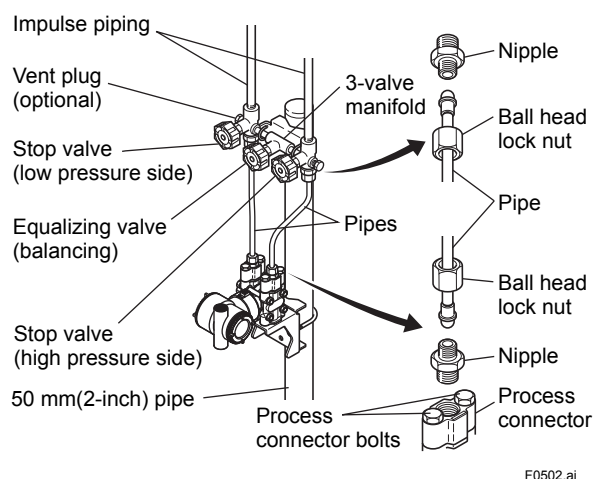

Figure 5.2 3-Valve Manifold (Pipe-Mounting Type)
■ Pipe-Mounting Type 3-Valve Manifold (Figure 5.2)